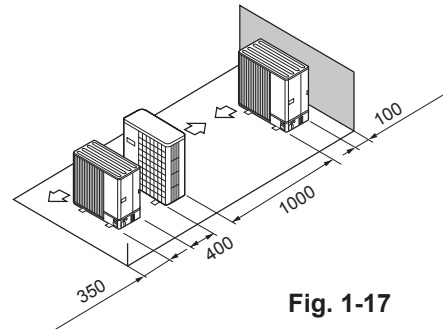

Fig. 1-17
- ⑤ Single parallel unit arrangement (Fig. 1-17)